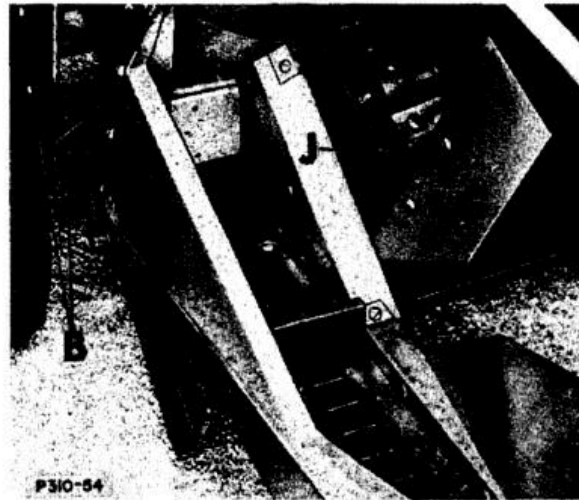
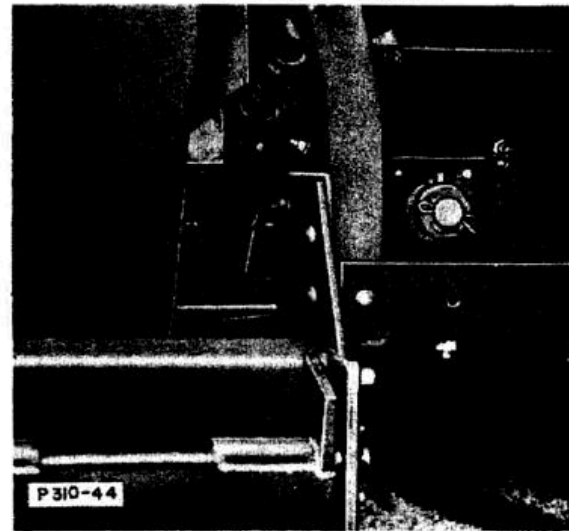

Figure 57
Figure 58
Figs. 57 & 58 - Lift the picker up until the frame just clears the floor on the back side (see Fig. 59). Put a support or blocks under the hitch to hold in this position.
Slide the elevator into position shown. Use blocks or a support under elevator to hold in position, or hook up bail rod at this time, see Fig. 59. Note how elevator is supported at "A" in Fig. 58. Attach outer support at "B" (Fig. 57) using two 1/2 x 1" machine bolts.
3. Raise and lower the gathering unit a few times to see that side of elevator does not interfere with filler sheet "J", Fig. 57, Page 21. These two points should just clear; if they do not, loosen bolts in filler shield "J" and adjust or reposition washers found between it and the frame until this is attained.